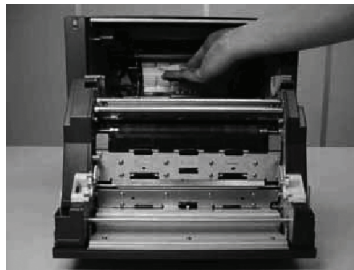

Figure 17. Cleaning the Print Head
6. Using a #8000 cleaning sheet (3M, Fuji Film, etc.), wipe the print head surface five (5) times in the same direction (for example, left to right) to remove any powder or residue adhering to the print head. (see Figure 17).